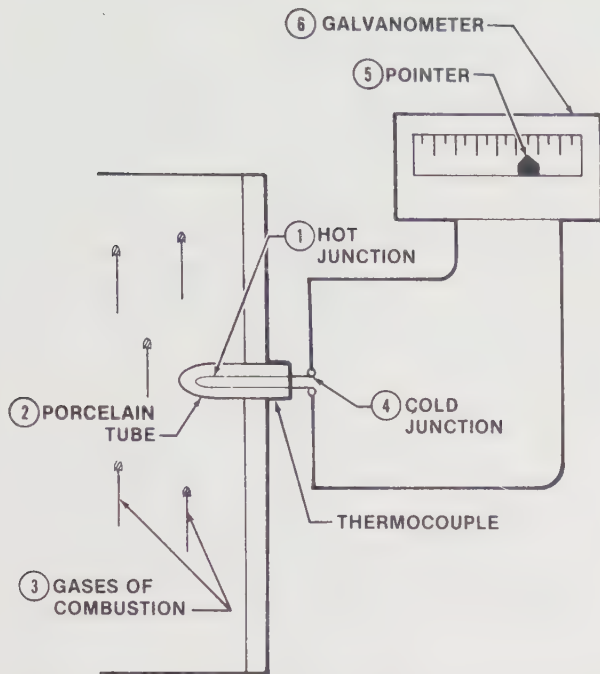

Figure 9-8. Two dissimilar metals possessing different electrical conductivity are used in thermocouples.
tion. See Figure 9-8. The hot junction (1) of the porcelain tube (2) is exposed to the heat of the gases of combustion (3). As this heat is sensed, a very small electric voltage is induced. This voltage is proportional to the difference in temperature between the hot junction and the cold junction (4) (where the porcelain tube connects to the leads).